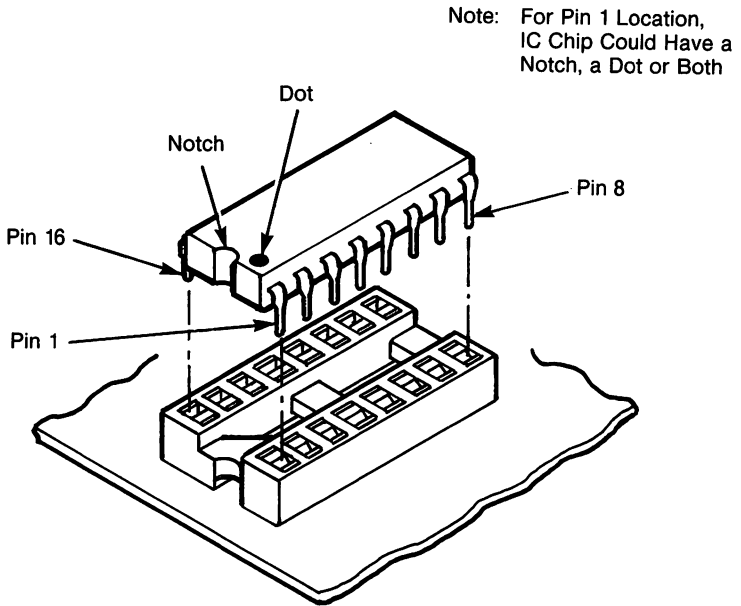

Figure 4-7 Memory chip insertion
2. Make sure that pin 1 of the chip you are adding is in the same orientation as those already installed. See Figure 4-7 for the correct orientation.